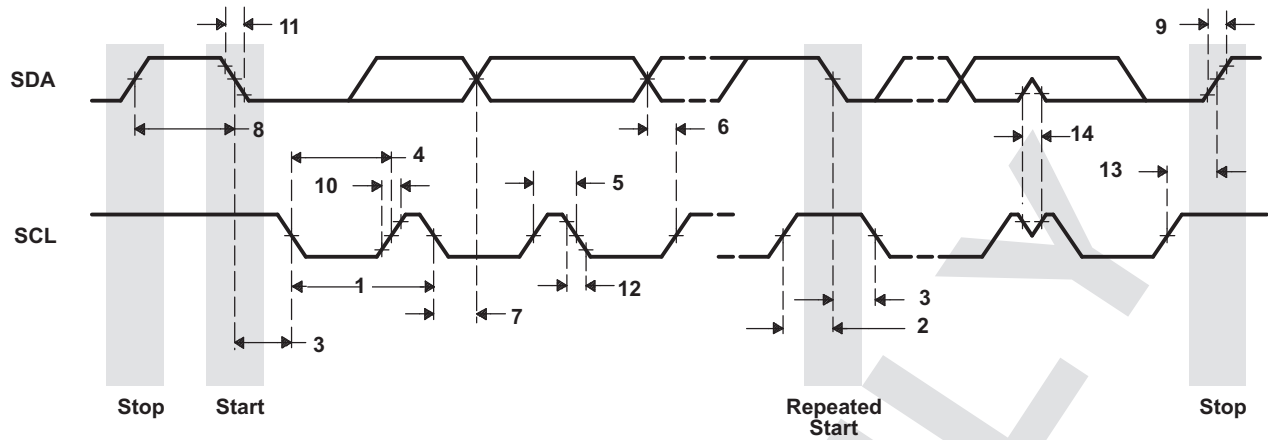

Figure 6-25. I2C Receive Timings
**Table 6-26. Timing Requirements for I2C Timings(1) (see Figure 6-25)**